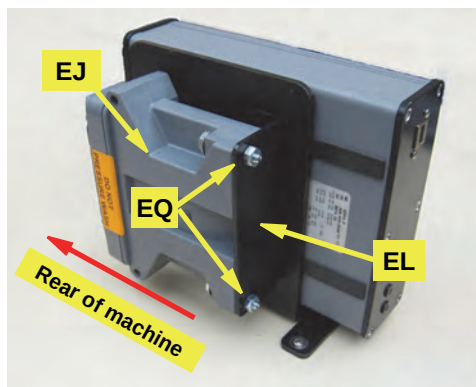

Figure 1d: Installed steering controller
- e. Using hardware **EQ**, attach steering controller **EJ**, connectors rearward, to its bracket **EL** (Figure 1d).